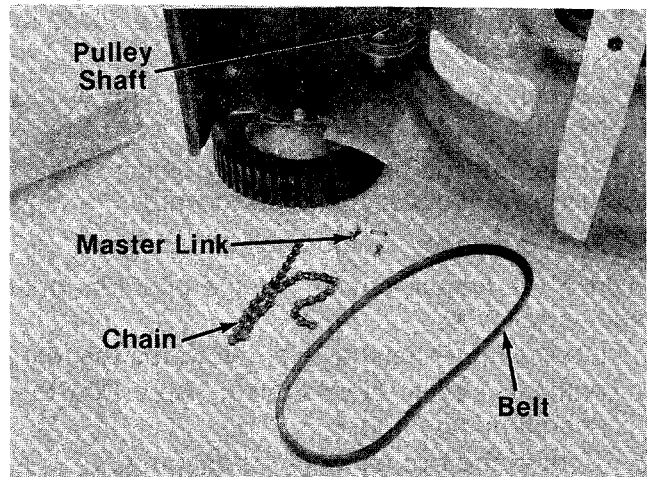

FIGURE 37.
- Remove the chain, pulley shaft and belt. See figure 37.